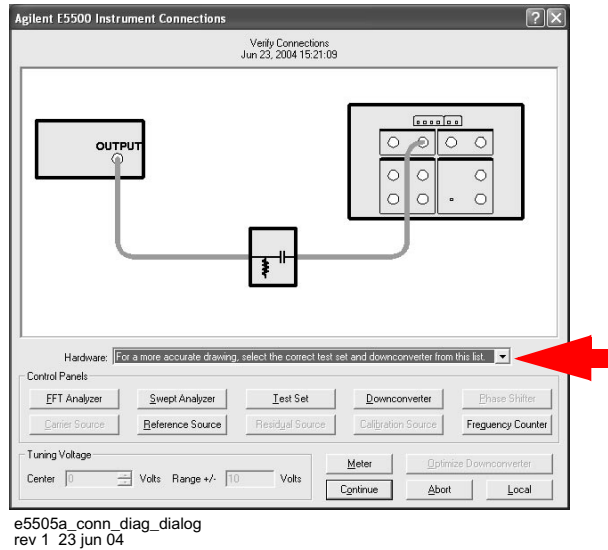

Figure 56 Connect diagram dialog box
- 3 When the **Connect Diagram** dialog box appears, click on the hardware drop-down arrow and select your hardware configuration from the list. See Figure 56 on page 88.
- 4 Connect your DUT and reference sources to the test set at this time. Confirm your connections as shown in the Connect Diagram (Figure 56).